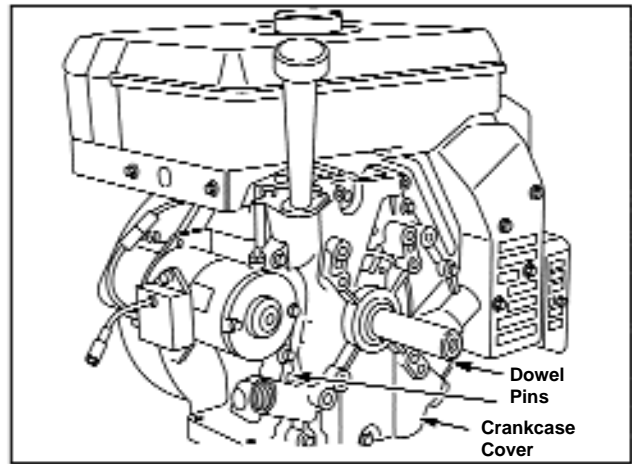

Figure 121 - Removing Crankcase Cover
4. If crankcase cover, tap lightly with soft hammer on alternate side near dowel pins, Figure 121.